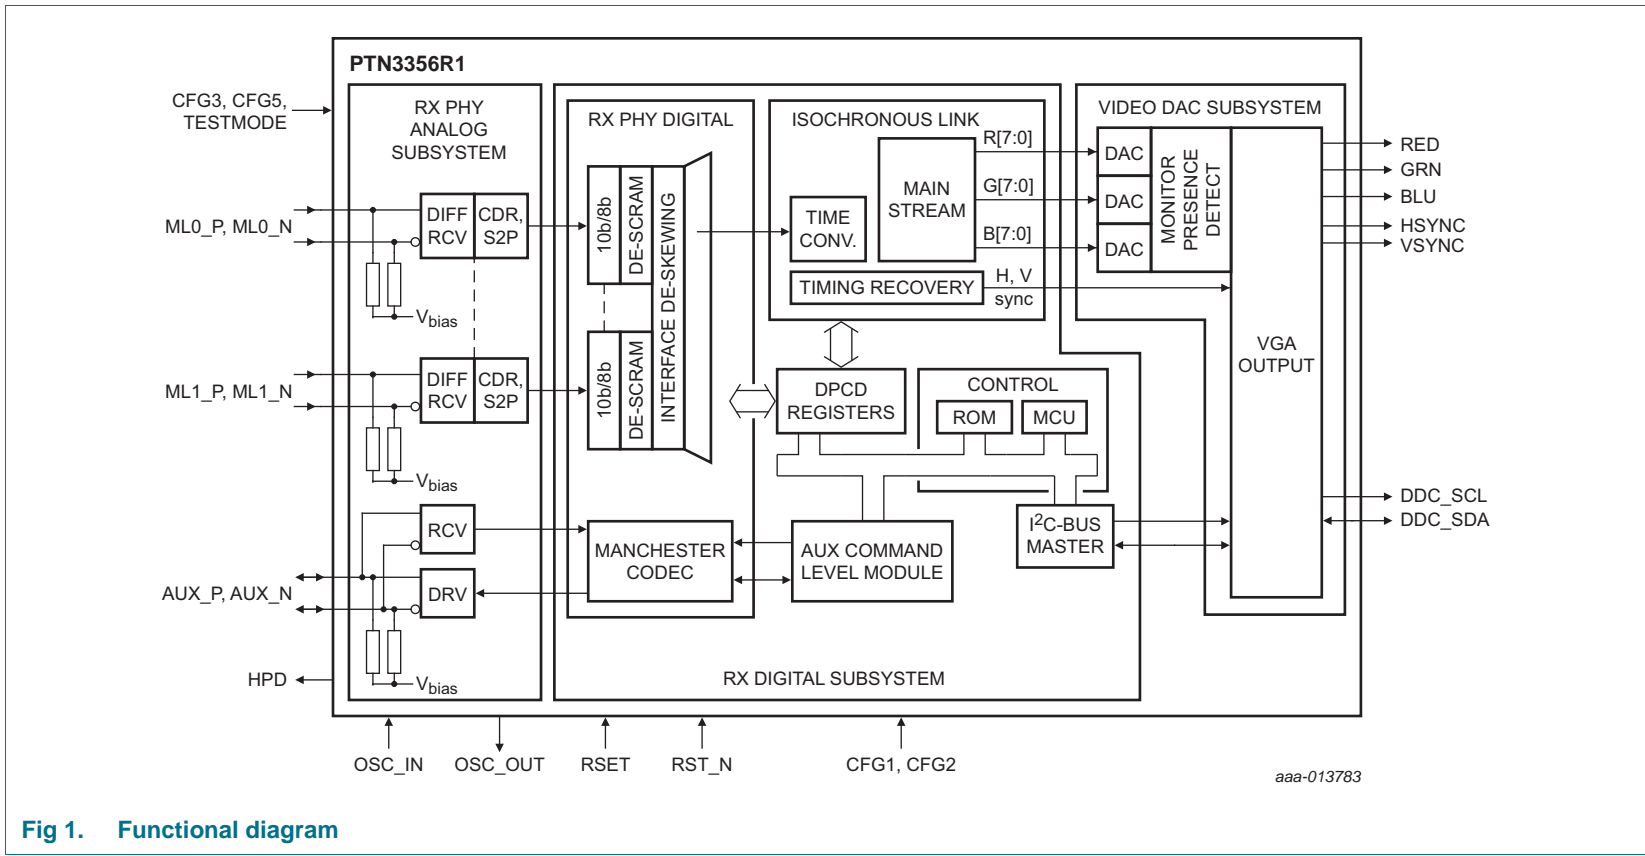

Fig 1. Functional diagram
Referring to Figure 1 "Functional diagram", the PTN3356R1 performs protocol conversion from VESA DisplayPort specification to VESA VGA output. At the physical layer, PTN3356R1 implements the advanced DisplayPort Front-end technology (Auto receive equalization, Clock Data Recovery) to support the objectives of delivering excellent Signal Integrity (SI) performance, and consuming very low power consumption. The PTN3356R1 integrates a DisplayPort receiver (according to *VESA DisplayPort standard*, Ref. 1) and a high-speed triple 8-bit video digital-to-analog converter that supports a wide range of video resolutions (see [Table 8 "Display resolution and pixel clock rate^{\[1\]}"](#)), up to a pixel clock rate of 240 MHz. The PTN3356R1 supports one or two DisplayPort Main Link lanes operating at either in 2.7 Gbit/s or 1.62 Gbit/s per lane.